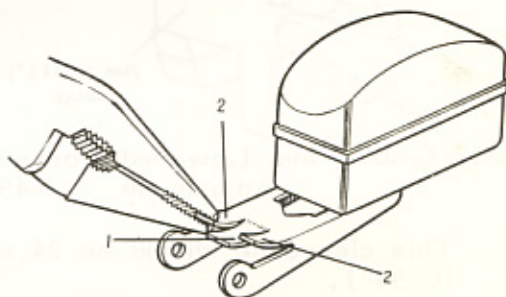

Fig.4-58 Float Tab X4985
To obtain a correct clearance, bend the tab at (1) in figure 4-58.
To obtain a correct clearance, bend the tab at (2) in figure 4-58.